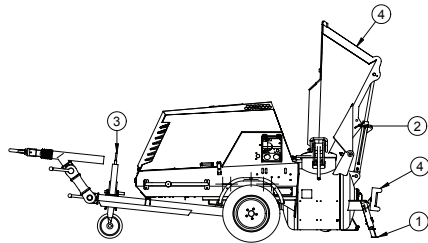

FIG.4
**⚠** - The bucket must always be secured with the safety pin. (ref.2,fig.4) before being transported.
**9. INSTALLATION (fig.4)**